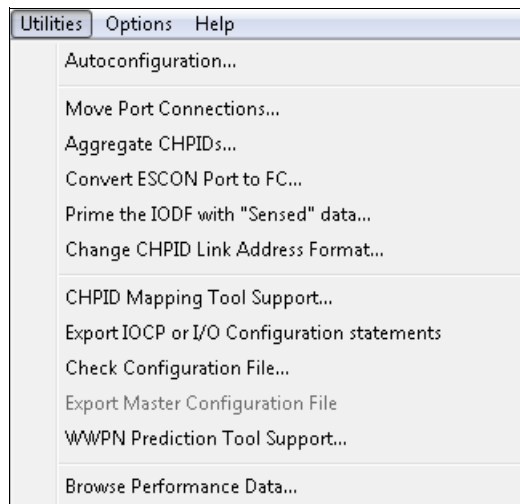

Figure 4-37 HCM - Utilities: Autoconfiguration
1. Click **Utilities** → **Autoconfiguration** (Figure 4-37).